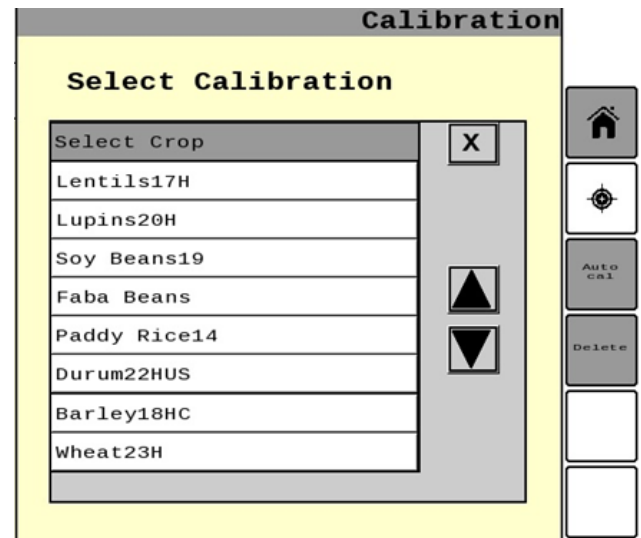

Figure 5.7 CropScan Virtual Terminal Calibration screen
- i. Select the **Calibration** icon button as shown in figure 5.7.